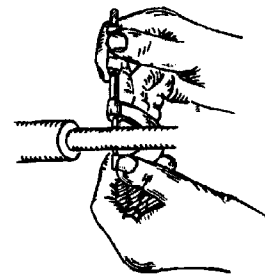

FIG. 13 MEASURING WORK MOUNTED IN A MACHINE
1. Grasp the frame of the micrometer near the anvil with the thumb and forefinger of the left hand. The frame is steadied with the second and third fingers of the right hand while the thumb and forefinger are used to rotate the thimble (Fig. 13).
2. Open the micrometer and place it over the work to be measured. Turn the thimble until its movement has brought the spindle and anvil in light contact with the work (Fig. 13).